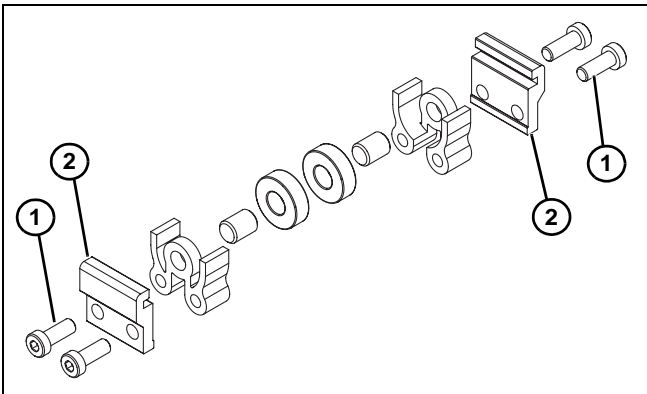
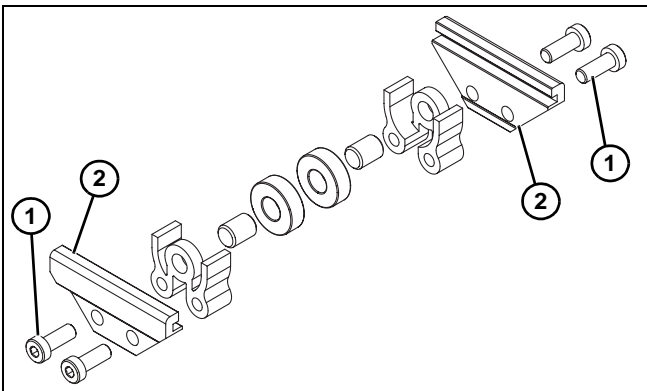

Figure 12
Figure 13
1. Locate return rollers. Exploded views shown in **Figure 12** & **Figure 13**.
2. Remove screws (**Figure 12, item 1**) & (**Figure 13, item 1**) and clips (**Figure 12, item 2**) and (**Figure 13, item 2**) from roller assembly.